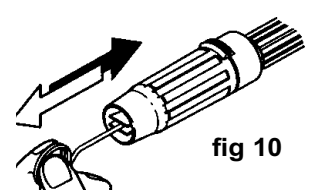

fig 10
- 4.7.5. Thoroughly clean the water nozzle with the tool supplied (fig 10).